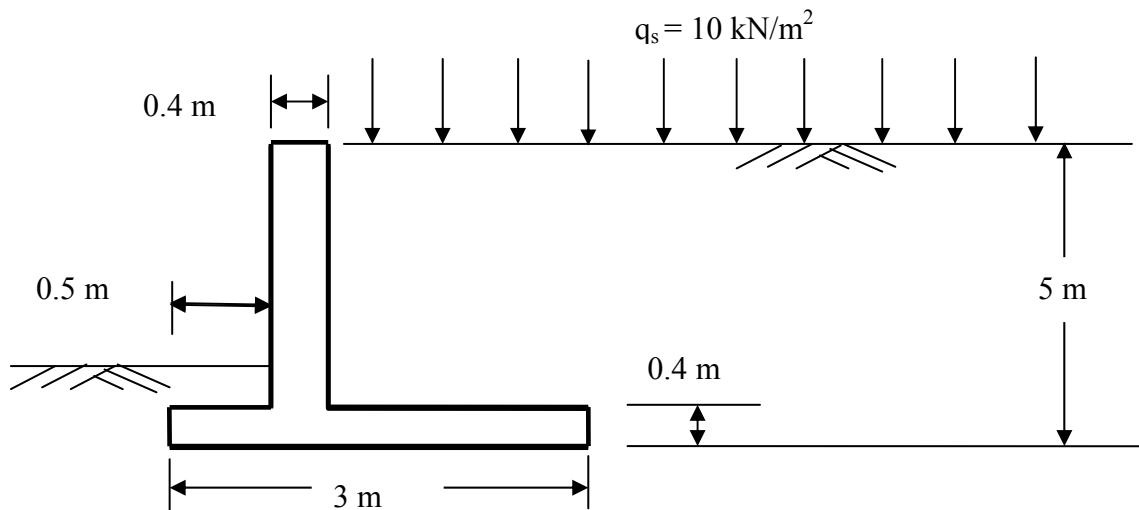

Figure 2
- c) Calculate the safety factor of the reinforced concrete wall shown in Figure 2 against sliding.